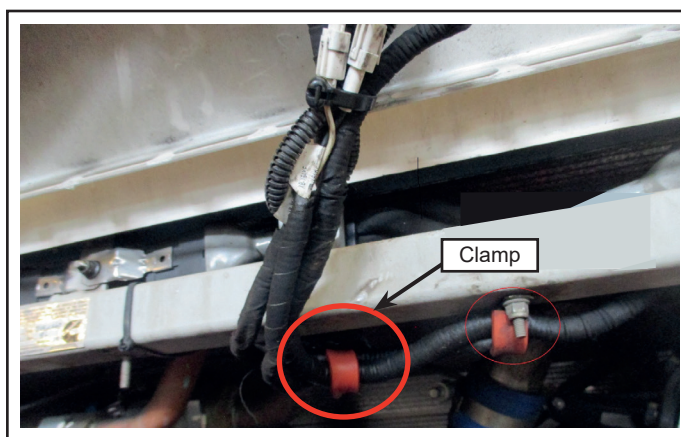

Figure 10 - Repositioning the Clamp
- 1.12. Rotate the clamp to position the harness towards the front of the bus (see figure 10).